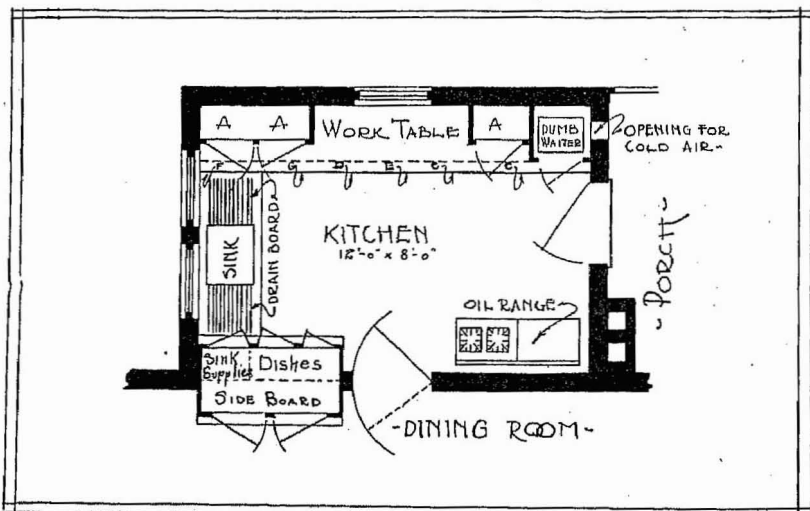

Fig. 1—This small kitchen shows compact arrangement. The letters refer to the built-in units that are illustrated in Figs. 17 and 18.
The soiled dishes which are brought from the dining table on a hand tray or a wheel tray are scraped and stacked, then placed at the right side of the sink (unless one is left-handed). After being washed they are drained and dried at the left and placed in the cupboard, which is above or near by. This dish cupboard should be convenient to both the left drain and the dining room if possible (as shown in Figs. 1, 2 and 5), or convenient to one of them. Either the table, or the right drain board for the soiled dishes, or the dish cupboard should be next to the dining room.
An idea of a small kitchen with compact arrangement is given in Figure 1, where the well planned shelves, drawers and bins permit the storing of sufficient supplies and utensils for
3. **Build a new kitchen.** Sometimes it is cheaper to build a new kitchen than to remodel an old one, especially if there is need of an extra room. Changing the old kitchen into a laundry, wash room, bedroom, or dining room, and building a new kitchen, offers the best opportunity to plan a compact and convenient kitchen. Three exposures usually can be obtained, and windows can be placed so that light is thrown on all work surfaces. Kitchens of this type are shown in Figures 1 and 5.